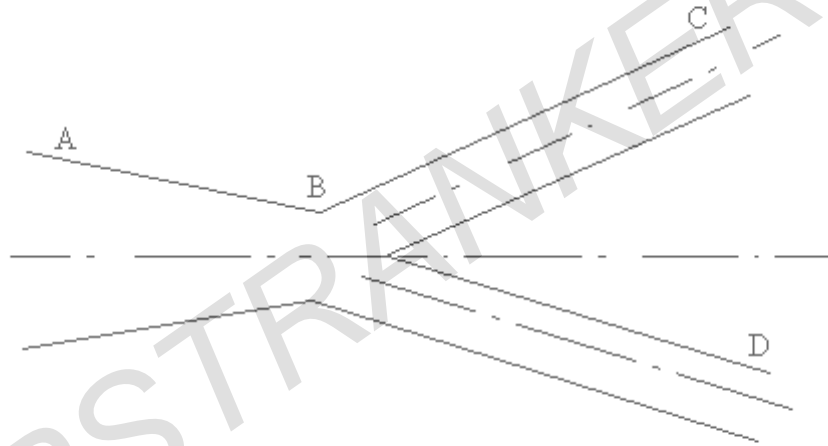

Figure 8c
- (c) Oil flows through a pipeline which contracts from 45 cm diameter at A to 30 cm diameter at B and then branches into two pipes C and D. The diameter of the pipe C is 15 cm and diameter of the pipe D is 20 cm. If the velocity at A be 1.8 m/sec and that at D be 3.6 m/sec Determine (figure8c)